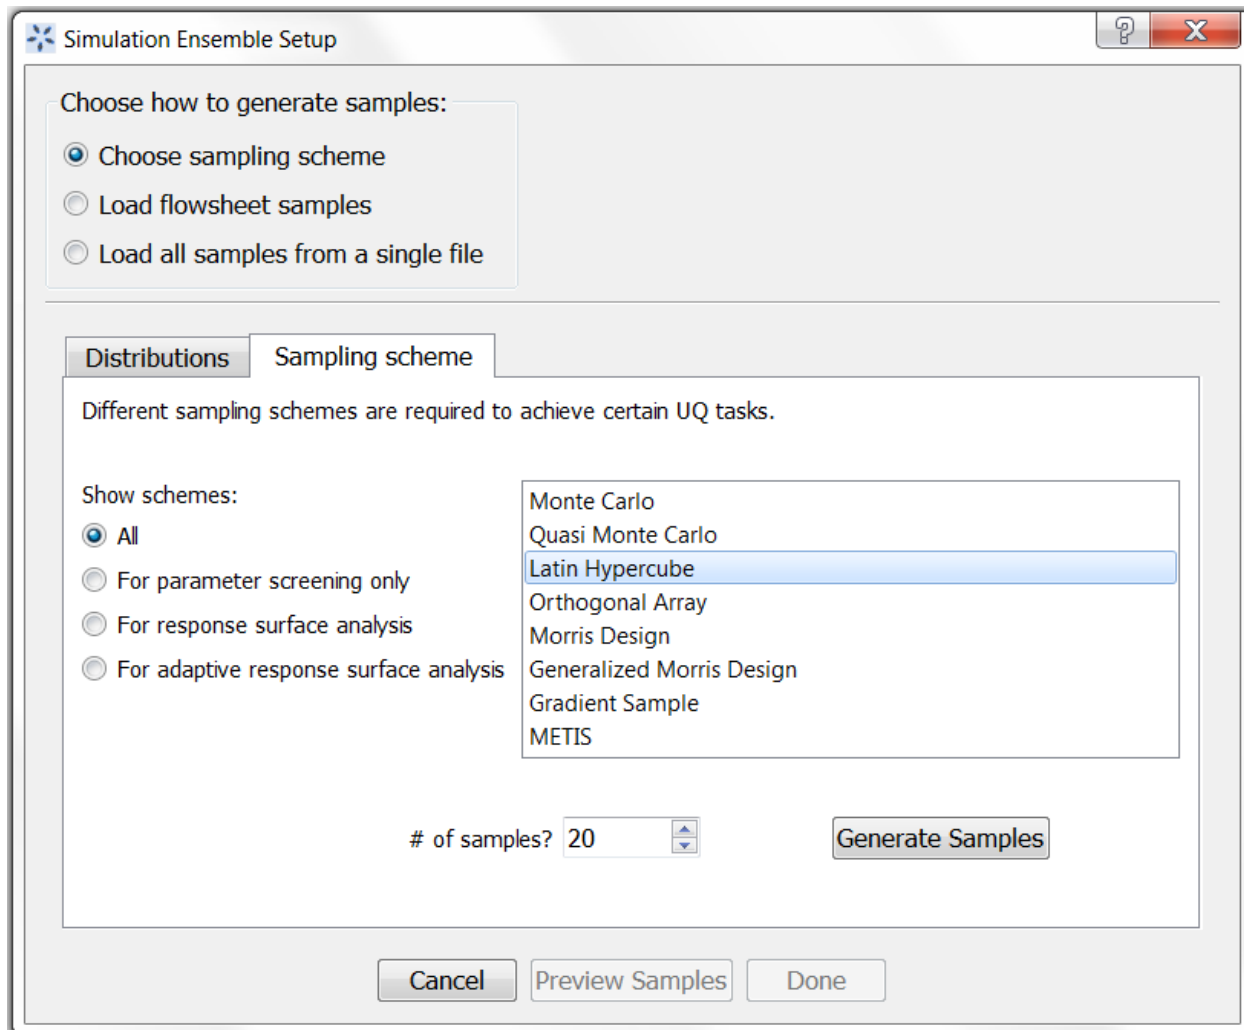

Figure 6: Window for Sampling Scheme and Number of Samples
3. Select the “Sampling scheme” tab and then select the “Latin Hypercube” sampling scheme in the list on the right. Leave the radio button of “All” selected. In the “# of samples?” box, enter number of simulations. For the tutorial example, enter “20” as shown in Figure 6. This is the number of samples or high-fidelity model cases the user wants to run. Click “Generate Samples”. iREVEAL generates 20 sets of input data to be used in the ROM.